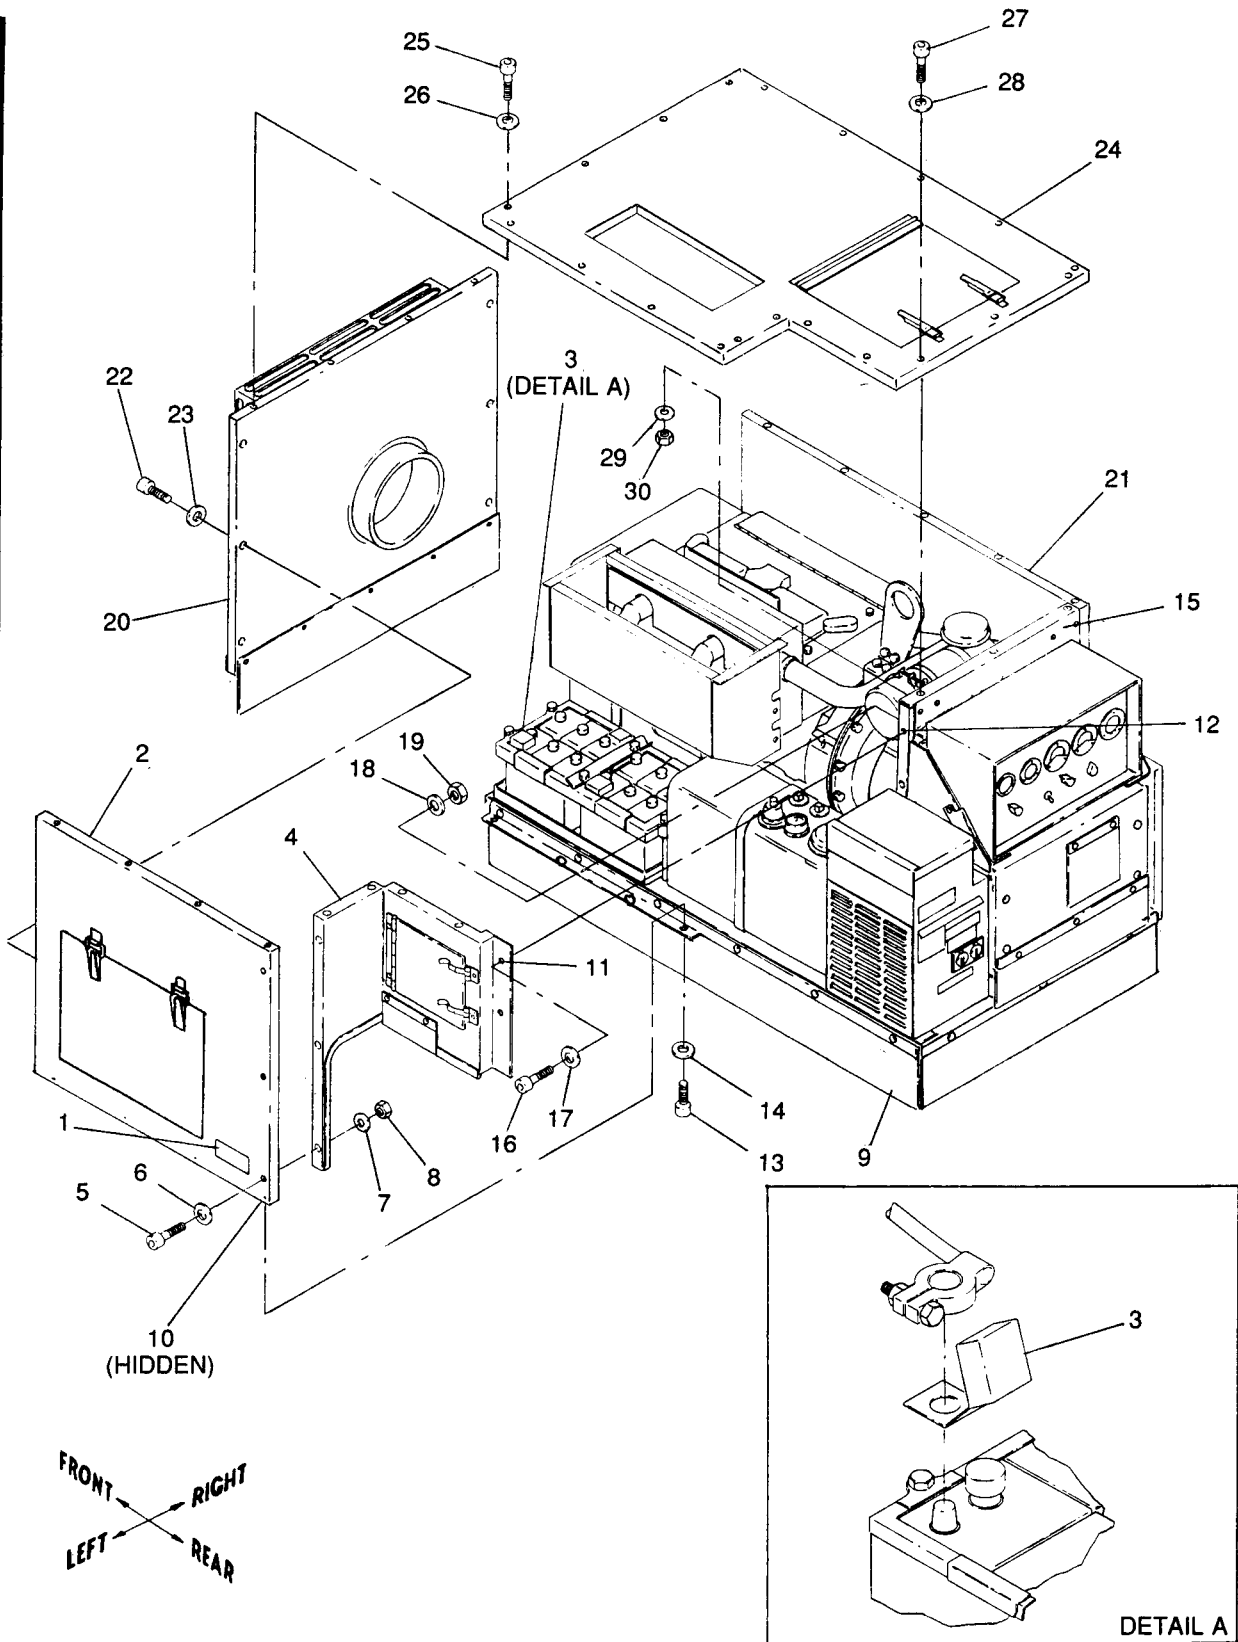

Figure 10-6. Installation of Left Panel, Side Closure, Front Panel and Top Panel Assemblies
(1) Remove battery connection instruction plate mounted next to batteries by breaking off rivet heads with hammer and chisel. Clean underside of plate. Refer to figure 10-6 and reinstall plate (1) on left panel assembly (2) at location shown with double sided tape (as listed in Table 10-1, item 8).
(2) Refer to Figure 10-6, detail A, and install battery terminal covers (3). Disconnect cable clamps from battery terminals. Place 4 each terminal covers (3) over battery
(1) Refer to figure 10-6 and clear out acoustic fill from holes in front panel assembly (20) using 3/8 inch diameter pin.
(2) Install front panel assembly (20) to right panel assembly (21) and left panel assembly (2) with six screws (22) and six washers (23) (as listed in table 10-1, item 10). Start all screws by hand first.
(3) Torque screws (22) to 18 ±2 in.-lbs dry.
(1) Refer to figure 10-6 and clear out acoustic fill from holes in top panel assembly (24) using 3/8 inch diameter pin.
(2) Locate top panel assembly (24) by aligning holes in top panel assembly (24) with captive nuts in left panel assembly (2), right panel assembly (21) and front panel assembly (20), and with holes in side closure assembly (4) and rear closure assembly (15).
(3) Install top panel assembly (24) to left panel assembly (2), right panel assembly (21) and front panel assembly (20) with 13 screws (25) and 13 washers (26). Install top panel assembly (24) to side closure assembly (4) and rear closure assembly (15) with seven screws (27), 14 washers (28 and 29) and seven-locknuts (30) (as listed in Table 10-1, item 11).
(4) Torque screws (25) to 18 \pm 2 in.-lbs dry.
(5) Torque screws (27) to 16 \pm 2 ft-lbs dry.